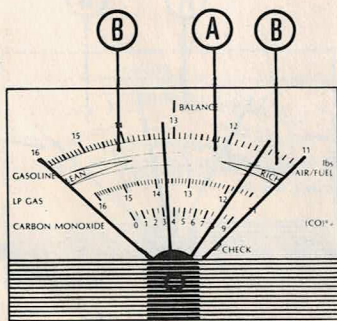

Figure 4
A. Analyzer should read between 11.5 - 13.2 with a steady pointer. (See Figure 4 "a") High compression engines usually use a richer fuel mixture, while low compression engines, conversely, usually use a leaner mixture.